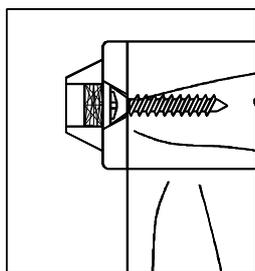

Figure 1
2. Screw the threaded rods (d) to the insert nut found at the bottom of the left side panel (C). Align the pre-drilled holes on the edge of bottom panel (B) with the hanger bolts, assemble using the half moon pressure plates (e), flat washers (g), spring washers (f) and nuts (h) and secure using the included wrench. Attach the top panel (A) and fix shelf (E) to the left side panel using the bolts (i), secure through the pre-drilled holes on the cleat and tighten with the included Allen key. (Fig. 1)
Use a 3/32" drill bit to drill pilot holes into the furniture item at the "screw marks". Use the TWO Short screws to secure the furniture-side bracket. This bracket can be positioned either vertically or horizontal as necessary (See Figure 1).